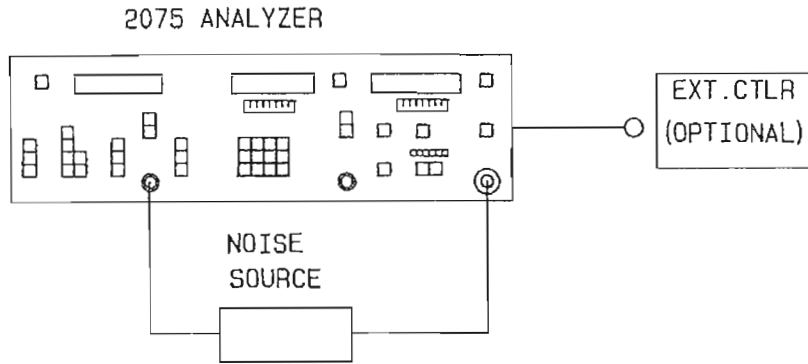

Figure 3-11a. TEST CONFIGURATION 4 CALIBRATION (SINGLE SIDEBAND)
Figures 3-11a and 3-11b are the connection diagrams for calibration and measurement when external relays are not used. An optional setup can be used where external relays, controlled by the 2075, provide the calibration path. (See Paragraph 3-34, page 3-75.)
1. Connect the test equipment as shown in the calibration setup of Figure 3-11a or the optional setup using external relays.